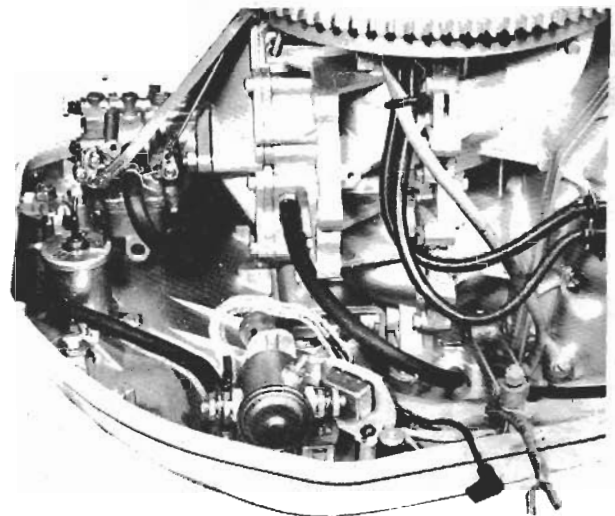

FIGURE 1
2. Assemble circuit breaker to circuit breaker mounting bracket using two (2) hex nuts furnished with kit.
3. Install the green circuit breaker lead wire to the short terminal of the circuit breaker using one (1) hex nut furnished with kit. Position circuit breaker lead wire so that it will run parallel to the floor of the support plate.
4. Install the black circuit breaker lead wire to the long terminal of the circuit breaker using one (1) hex nut furnished with kit. Position circuit breaker lead wire so that it will run parallel to the floor of the support plate. SEE FIGURE 1.
5. Using two (2) 10-24 x 3/8 round head screws and two (2) washers (#8018) furnished with kit, install circuit breaker assembly to the support plate as shown in FIG. 1.
1. Install the choke solenoid to the support plate using two (2) 1/4-20 x 1/2" nylox - hex slotted head screws w/type "A" external tooth lockwashers. SEE FIG. 1.
2. Using two (2) 1/4-20 x 5/16 fillister head screws and two (2) #8069 washers furnished with kit, install starter relay to support plate as shown in FIG. 1. (The washers are installed between the starter relay and support plate.)